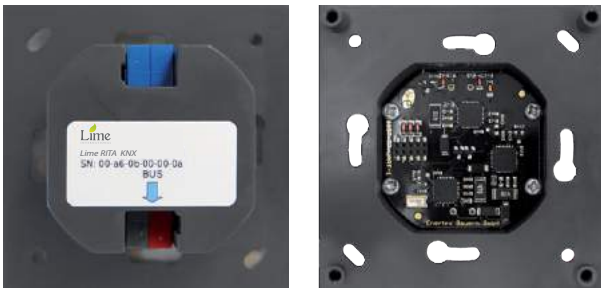

Figure 1: Bus coupler back and front without ESD protection foil
- 1 pcs. Bus coupler (Figure 1)
- Installation of the bus coupling unit (Figure 1) by means of screw mounting in the wall box. The screw terminals of the flush-mounted socket must be at the top when installing.